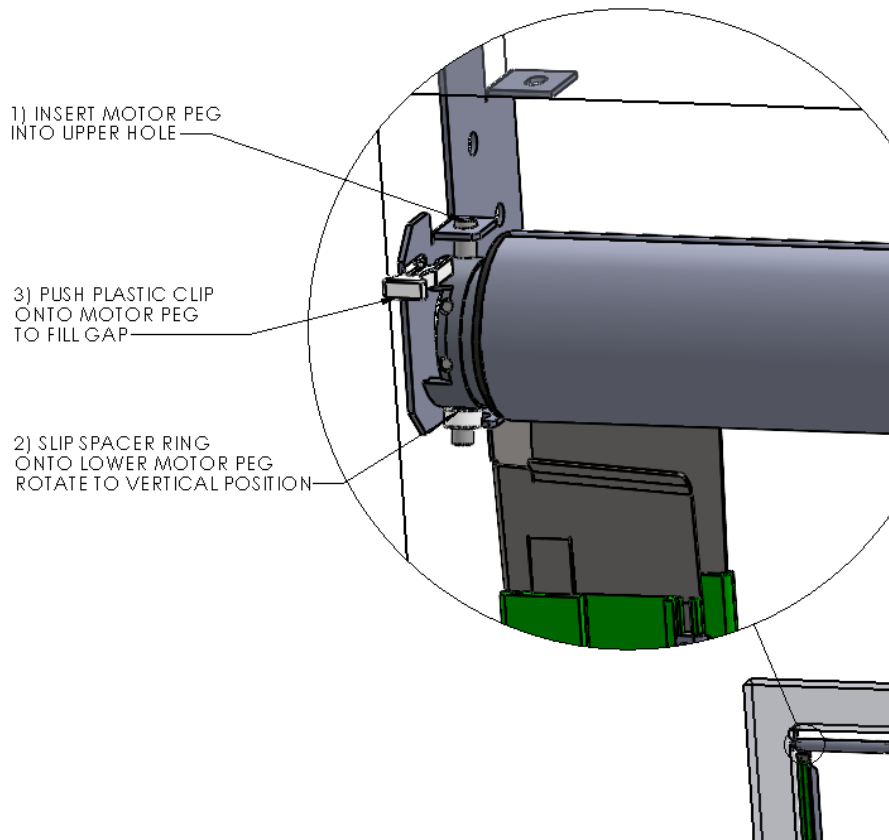

Figure 7 INSTALL L.H. SIDE OF HEADER ASSEMBLY
2. At the LEFT side, push the Header Assembly toward the Idler side to compress (spring loaded) Idler Shaft, and insert the Upper Motor Peg fully into upper hole of L.H. Header Mounting Bracket. (Figure 7 INSTALL L.H. SIDE OF HEADER ASSEMBLY)
3. Slip the plastic Ring onto Lower Motor Peg, then insert the Lower Motor Peg into lower hole on the Header Mounting Bracket. (Figure 7 INSTALL L.H. SIDE OF HEADER ASSEMBLY)
4. Insert the plastic Clip onto Upper Motor Peg to fill space between the Bracket and Motor. (Figure 7 INSTALL L.H. SIDE OF HEADER ASSEMBLY)